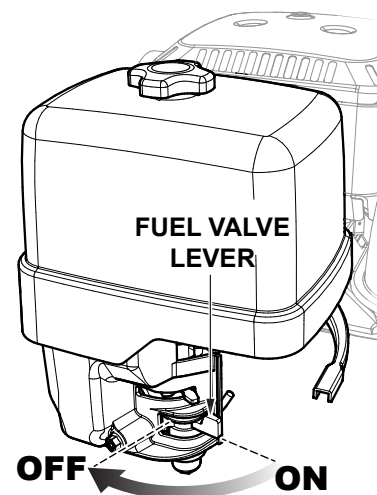

Figure 31. Fuel Valve Lever (Closed)
3. Place the fuel valve lever in the **CLOSED** position (Figure 31).